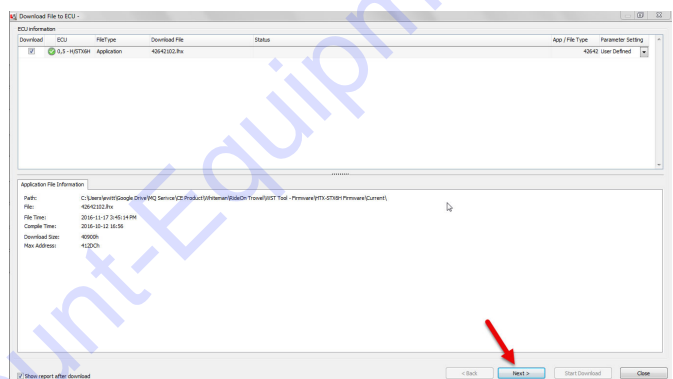

Figure 23. Start Download Screen
7. Click "Next" then "Start Download" button (Figure 23).